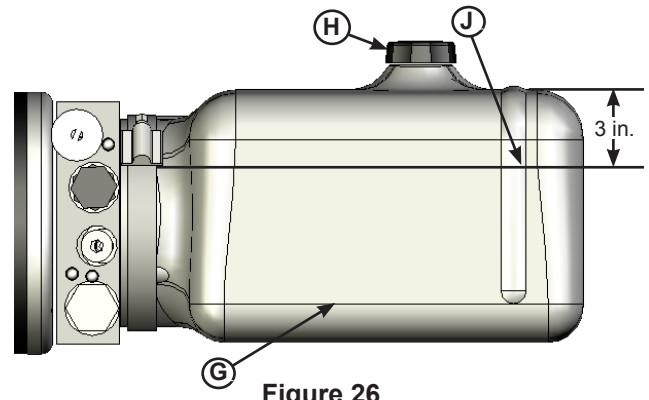

Figure 26
- Check reservoir fluid level (J, see Figure 26):
3. Remove breather cap (H).
4. Measure fluid level. The fluid level should be approximately 3 in. (76.5 mm) from top of reservoir (G) with platform at the below-dock position.